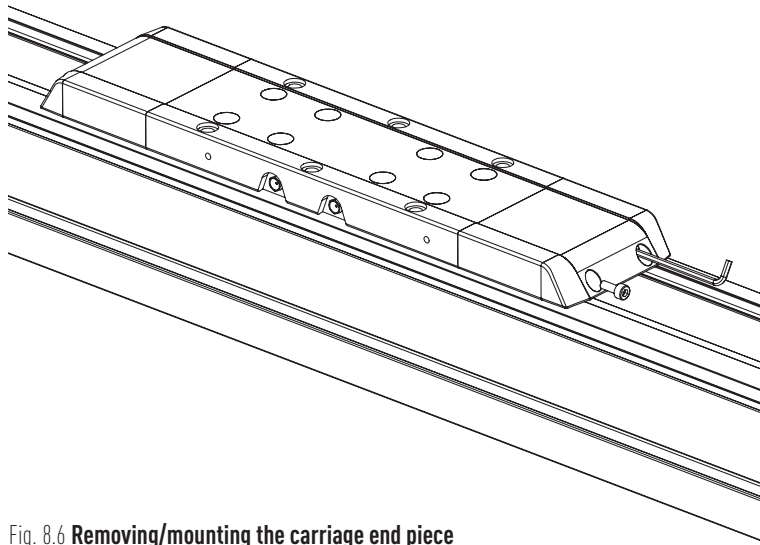

Fig. 8.6 Removing/mounting the carriage end piece
- ▶ Undo the carriage end piece screws. Remove the end piece from both ends of all carriages (see Fig. 8.6).
- ▶ Place the carriage end pieces on the belt deflection as shown in Fig. 8.6 and hand-tighten the mounting screws.